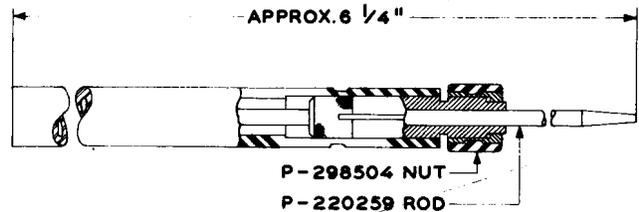

Fig. 6—411C Test Pick Tool
2.06 **411C:** The 411C test pick tool (Fig. 6) is for general use in circuit testing. This tool may be connected to a cord by means of a 360-type tool. This tool is similar to the 411A and 411B tools except that the body of the tool is made of red plastic instead of fiber. The 411C tool replaces the 298, 411A, and 411B tools.